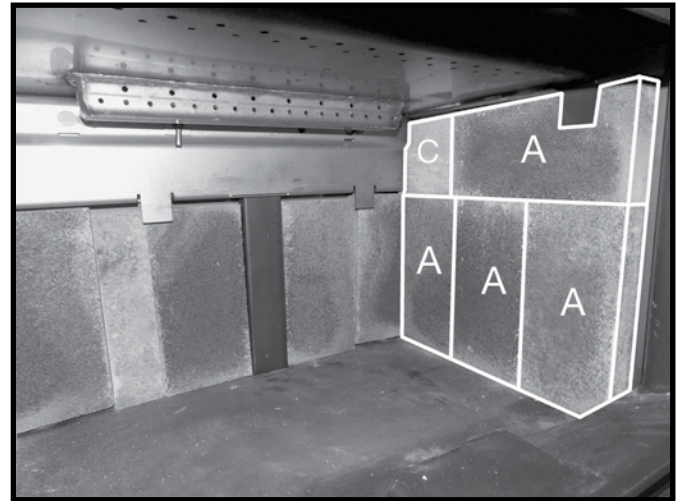

Figure 18: Right side wall final A brick placement.
4. Slip an "A" brick horizontally on top of the center and near "A" bricks. Insert this brick behind the tab as shown in Figure 18.